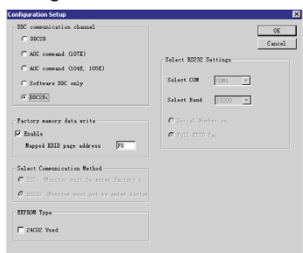

Fig. 13
- Select the DDC2Bi as the communication channel. As shown in Fig. 13.